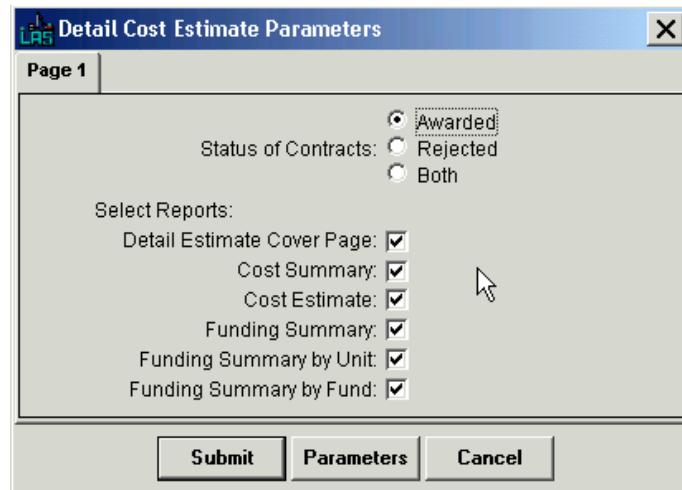

Figure 10-12. Detail Cost Estimate Parameters Window
3. Select **Generate Final Detail Estimate** and click ok. Trns•port displays the Detail Cost Estimate Parameters window (see Figure 10-12).